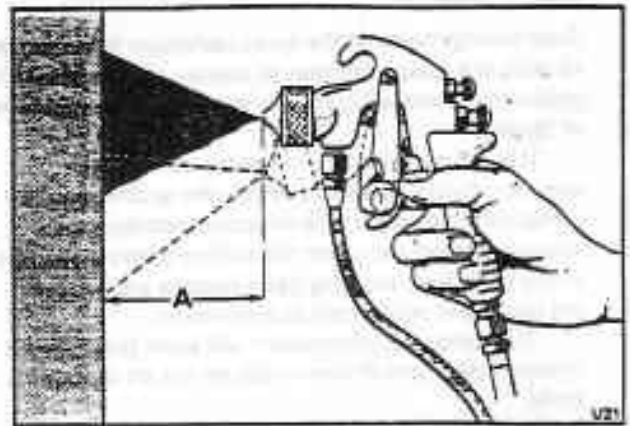

Fig. S17-30 Tilting the spray gun
2. Tilting the spray gun (see fig. S17-30). If the gun is tilted during a stroke the spray pattern will be uneven and a certain amount of spray fog will form. The gun should always be held at right-angles to the surface.